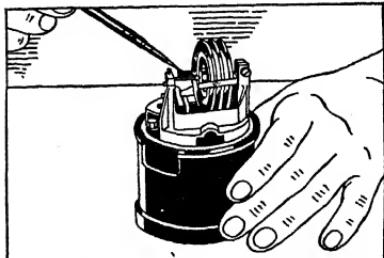

FIG. 19.—Do not remove pins shown here.
*It is specially important that the pins indicated in Fig. 19 and the nuts pointed out in Fig. 20 should not be moved, on all Kollsman sensitive altimeters.*